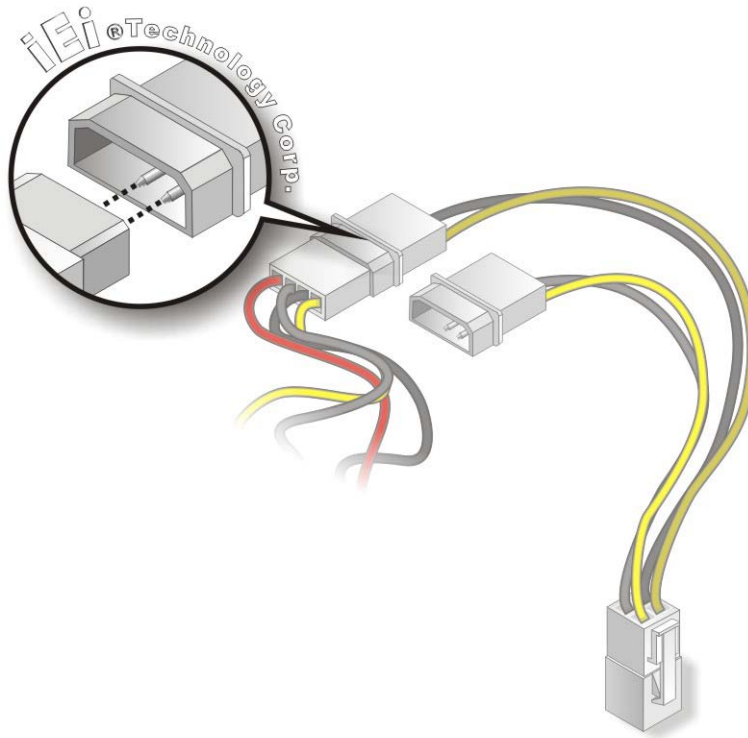

Figure 4-15: Connect Power Cable to Power Supply
- Step 2:** **Align pin 1.** Align pin 1 on the on-board connector with pin 1 on the audio kit connector. Pin 1 on the audio kit connector is indicated with a white dot. See **Figure 4-15**.